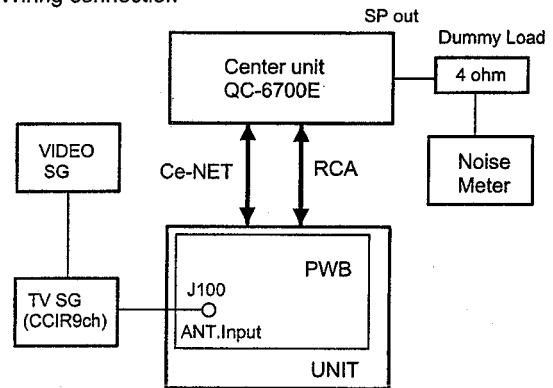

Fig.4
2. Adjust the VR501 so that the display level of the spectrum analyzer becomes $97\text{dB } \mu$ to test pattern TP101. (Fig.4)